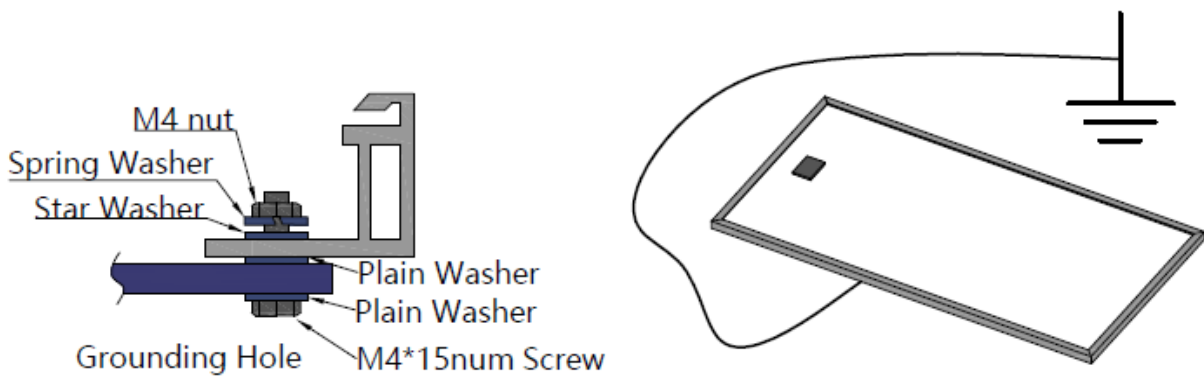

Figure 8: Ground installation of PV modules
- e) All module frames and mounting racks must be properly grounded in accordance with local and national electrical codes. Attach the equipment grounding conductor to the module frame using the hole and hardware provided. Note that a stainless steel star washer is used between the ground wire and module frame (see Figure 8 below). This washer is used to avoid corrosion due to dissimilar metals. Tighten the screw securely.